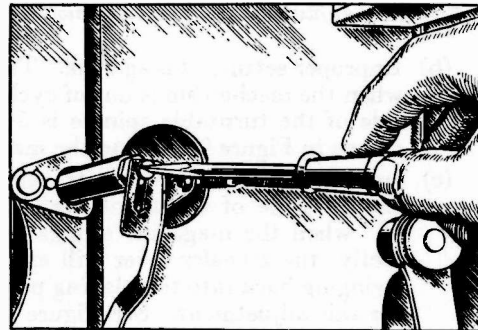

Figure 12—Adjusting height of elevator shaft
- (b) Improper adjustment of elevator shaft. The elevator shafts should rise to such a height as to give $\frac{1}{16}$ " clearance between the lowest surface of the elevator pad bottom and the top of the empty magazine. This adjustment can be made by means of the screw and lock nut as shown in Figure 12.